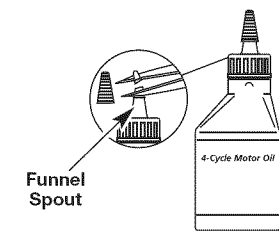

Fig. 6
- Unscrew the top of the bottle of oil and remove the paper seal covering the opening. Replace the top. Next, cut the tip off the funnel spout (Fig. 6).